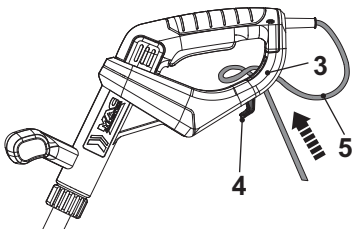

Fig. 3
1. Double the power cord (5) back, about 60 cm from the power guard and lead the loop through the hole of the rear safeguard (3) (Fig. 3).